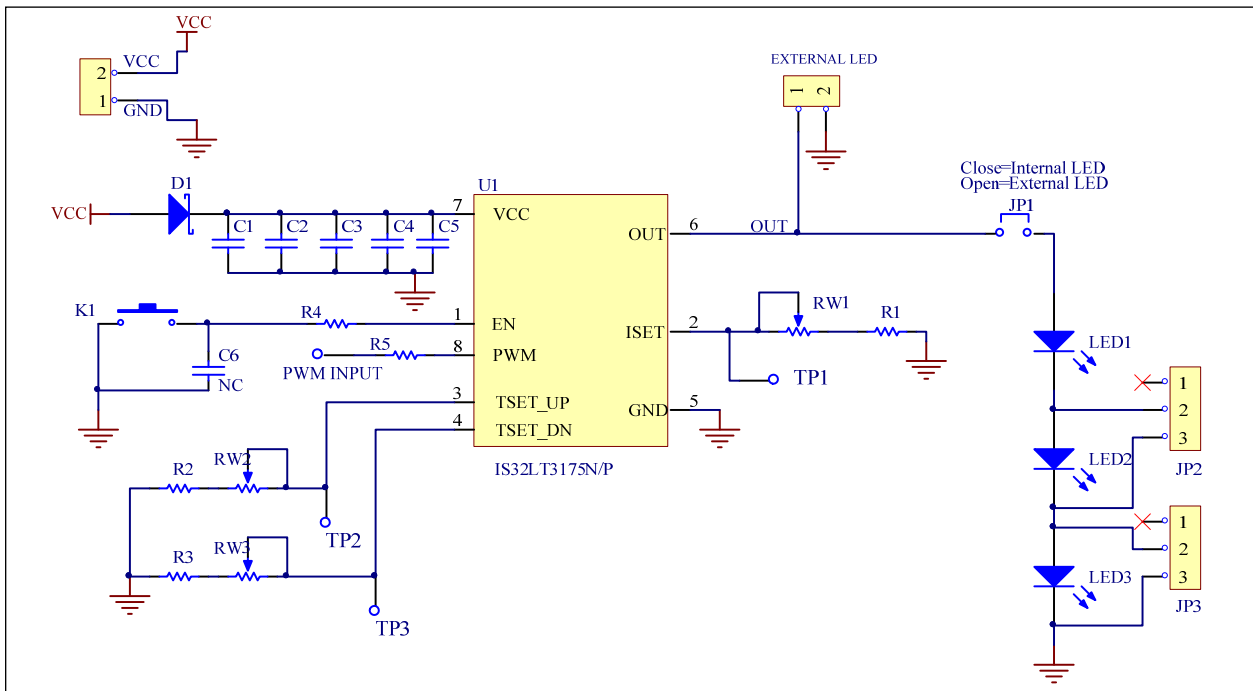

Figure 2: IS32LT3175N/P Application Schematic
- with an ohm meter across TP1 and GND pins. Use this measured resistor value to replace the variable resistor RW1 and R1 (see schematic Figure 2).
- 3) The fade in time is adjusted by the variable resistor (RW2). Turn RW2 counter clockwise to decrease fade in time, and clockwise to increase fade in time. Once the desired fade in time is set, measure the resistor value across TP2 and GND. Use this measured resistor value to replace the variable resistor RW2 and R2 (see schematic Figure 2).
- 4) The fade out time is adjusted by the variable resistor (RW3). Turn RW3 counter clockwise to decrease fade out time, and clockwise to increase fade out time. Once the desired fade out time is set, measure the resistor value across TP3 and GND. Use this measured resistor value to replace the variable resistor RW3 and R3 (see schematic Figure 2).
Bill of materials, refer to Figure 2 above.